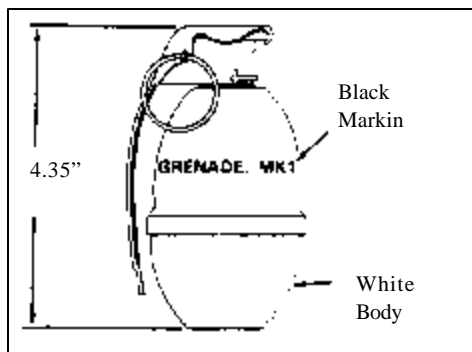

Figure 64. U.S. Illumination grenade.
- (3) Illumination grenades are used for illuminating, signaling, and as an incendiary agent. See figure 64. The metal body breaks apart after the fuze functions and dispenses an illumination flare. This type of grenade uses a burning-delay fuze that functions 3 to 5 seconds after the safety lever is released.